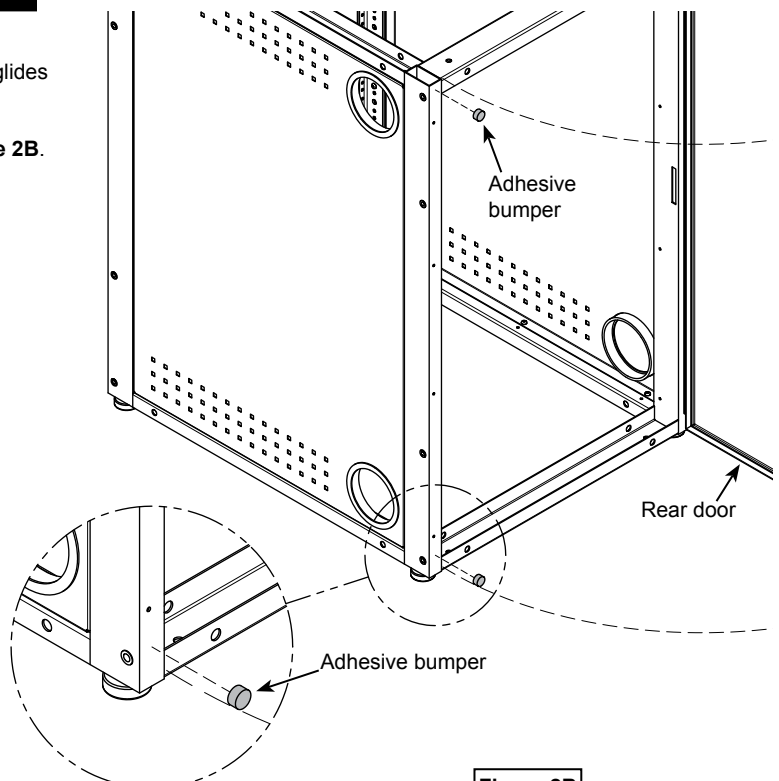

Figure 2B
3. Tip the unit back upright, and open the rear door to attach the (2) adhesive bumpers to the equipment rack frame as shown. **Figure 2B**.